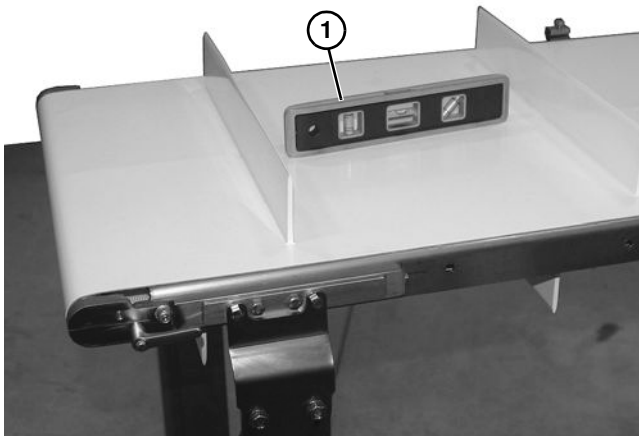

Figure 3
Conveyor **MUST** be mounted straight, flat, and level within confines of conveyor. Use a level (**Figure 3, item 1**) during setup.